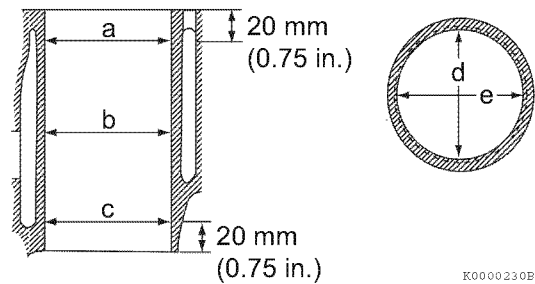

Figure 6-67
- Take measurements at three places (Figure 6-67) (a, b, c), and in two directions (d and e) in each cylinder.